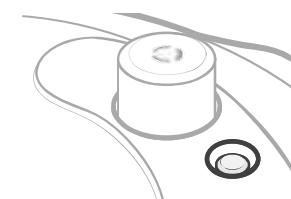

Figure 4.3
10. The float valve will drop to indicate when the pressure has been fully released. **[Figure 4.3]**